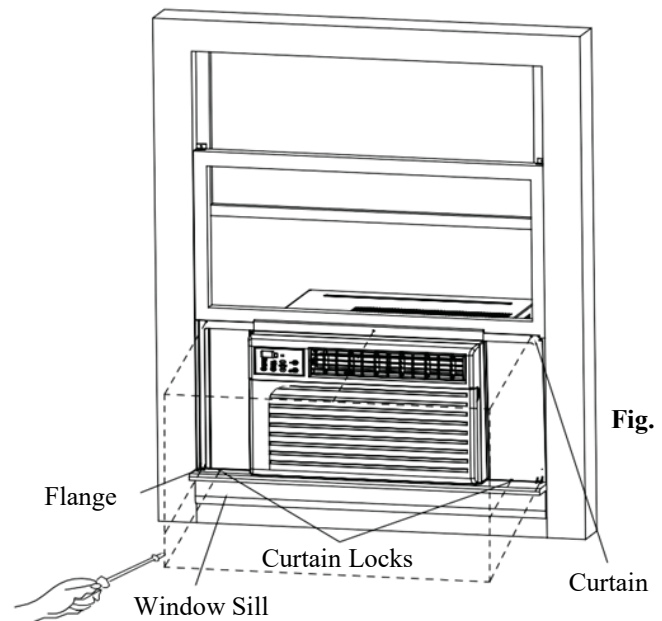

Fig. 13
1. Secure the left and right flanges on the lower end sides of the panel with long screws (See Fig. 13).